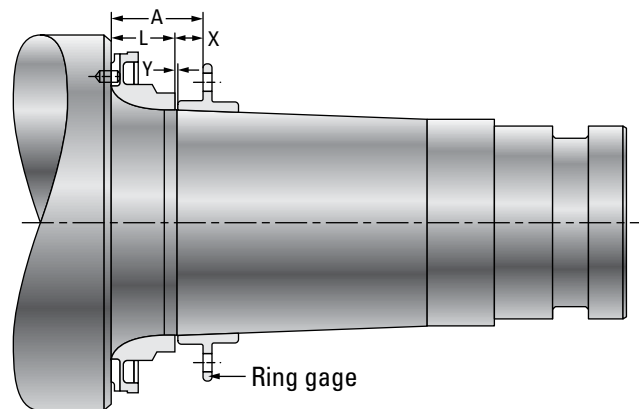

Fig. 250. Ring gage positioned on roll neck.
Fig. 250 illustrates the tight-fitted fillet ring in place (against the barrel face). To determine its length (L) for the particular neck on which it will be fitted, use a ring gage. We can supply this tool on request.